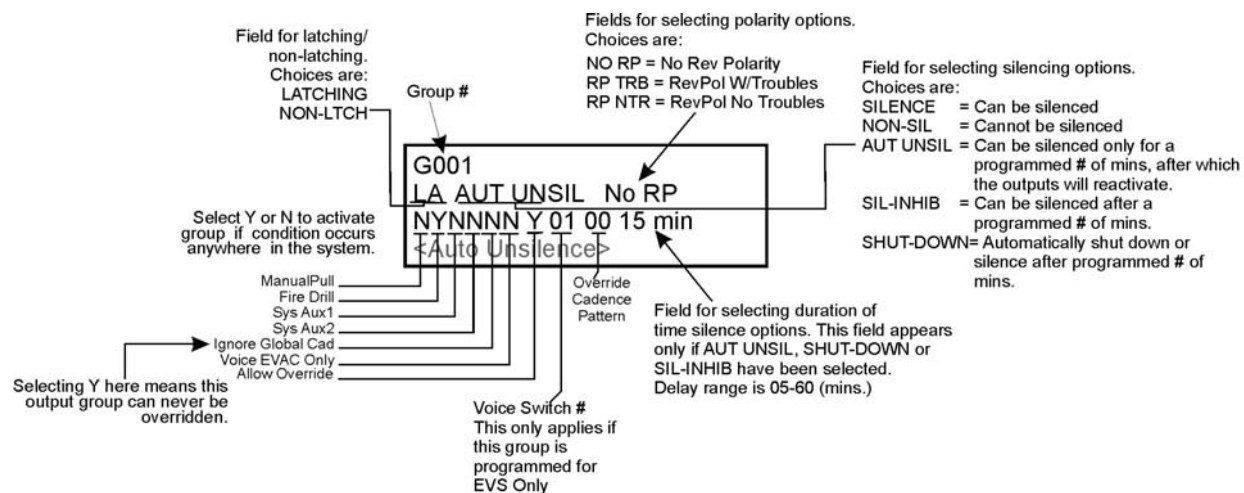

Figure 7-9 Group Properties Screen Programming Options
- Define output group type as voice or non-voice and Allow Override. These options are for EVS Only. See Figure 7-9.
AUT UNSIL	Auto Unsilenced. If this option is selected, the output group can be silenced for a programmed time-frame. If the condition that caused the output to activate has not cleared during the time-frame, the output reactivates. If you select this option, select the time-frame in the delay field. Range is 05-60 minutes. (See Figure 7-9 for location of field.)
SIL-INHIB	Timed Silence after Inhibit. If this option is selected, the output group must be audible for a programmed number of minutes before it can be silenced. If the condition that caused the output to activate has not cleared during the time-frame, the output can be silenced. If you select this option, select the timeframe in the delay field. Range is 05-60 minutes. (See Figure 7-9 for location of field.)
SHUT-DOWN	If this option is selected, the output group will automatically silence (shut down) after the programmed time period. If you select this option, select the timeframe in the DLY: field. Range is 01-60 minutes. (See Figure 7-9 for location of field.)
You can select whether an output group will respond to various system-wide occurrences. (See Figure 7-9 for location of this field.)